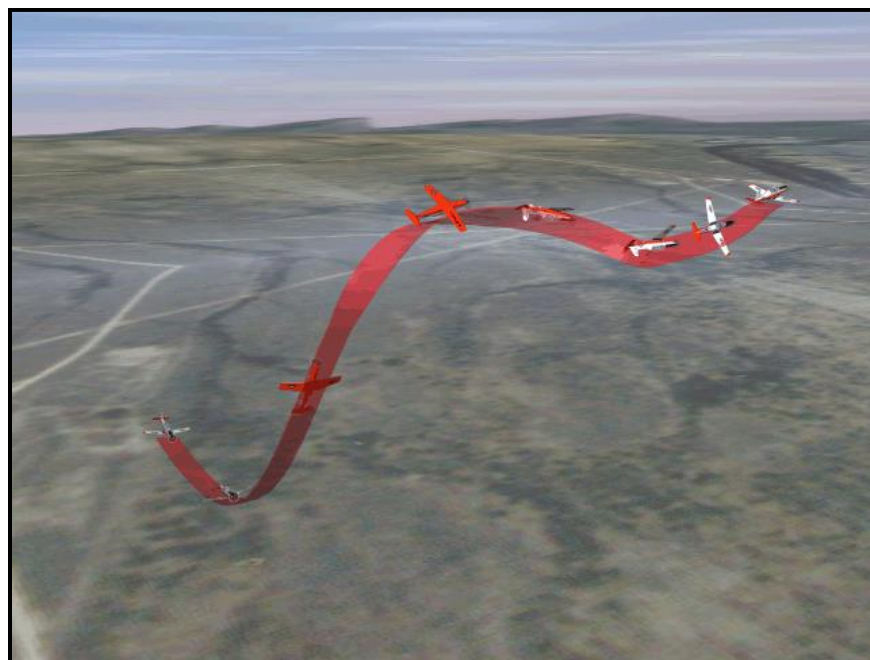

Figure 9-2 Nose-High Recovery
- a. Set power to MAX (as required in low airspeed situations) and initiate a coordinated roll *past 90° AOB*. Utilize back stick pressure to bring the nose of the aircraft down to the nearest horizon. Depending on initial airspeed and aircraft attitude, a wings-level, inverted attitude may be reached. As the nose approaches the horizon, roll to an upright attitude (Figure 9-2).